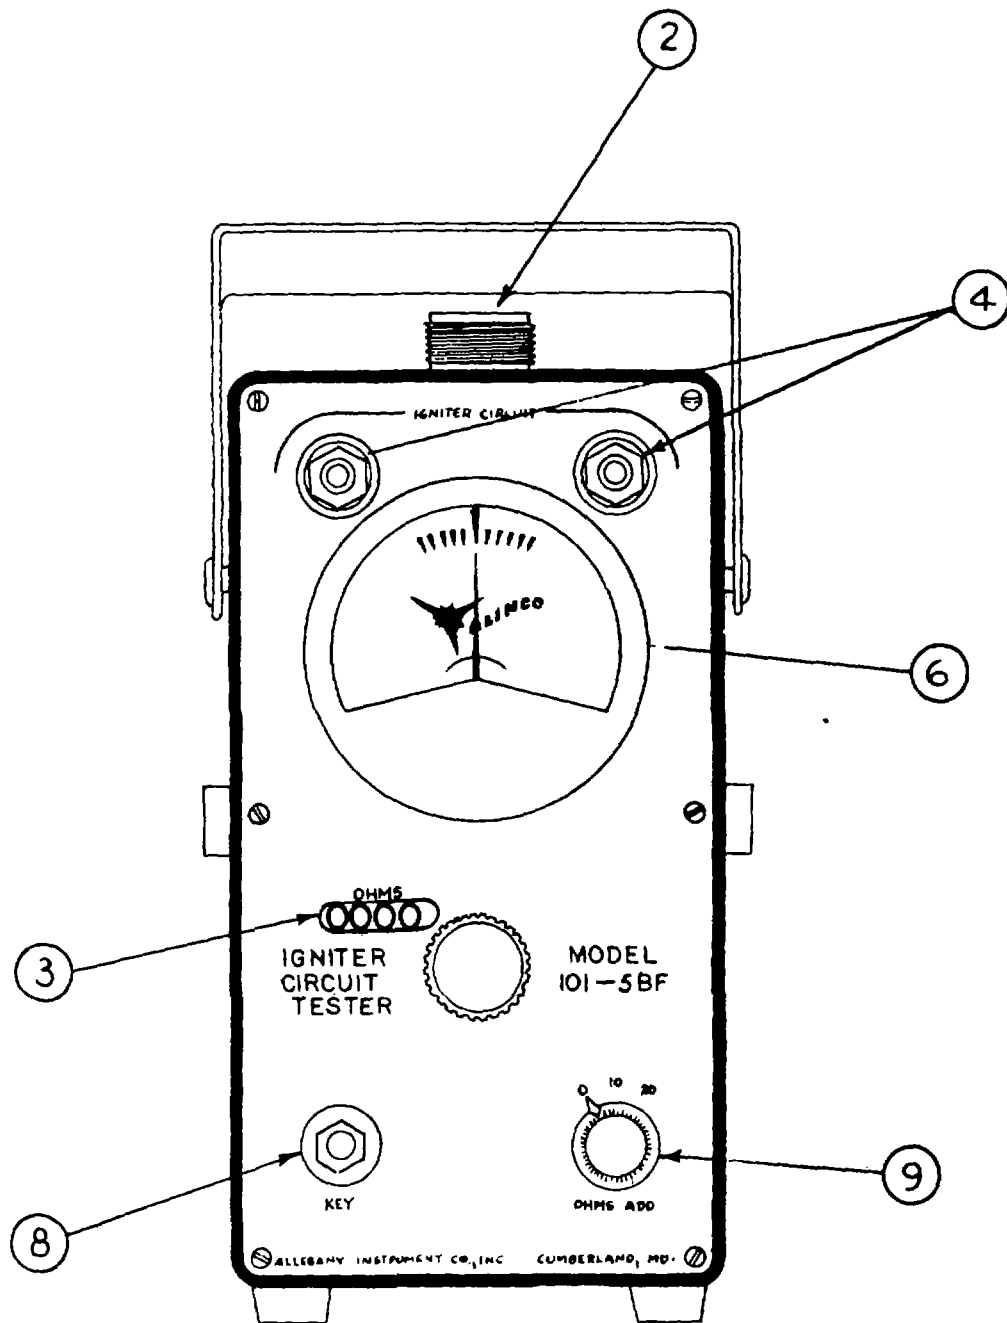

FIGURE 2
1. Front Panel Controls and Connections (Figure 2):
The illustrated parts utilized in Figures 2, 3, and 4, show the location of the basic parts utilized in the circuitry, but since the calibration of the tester is affected by the replacement of many components, except for replacement of the battery, field repairs are not recommended. If repairs do become necessary, refer the malfunction to the next higher category of maintenance.
(FIGURES 2, 3, and 4)